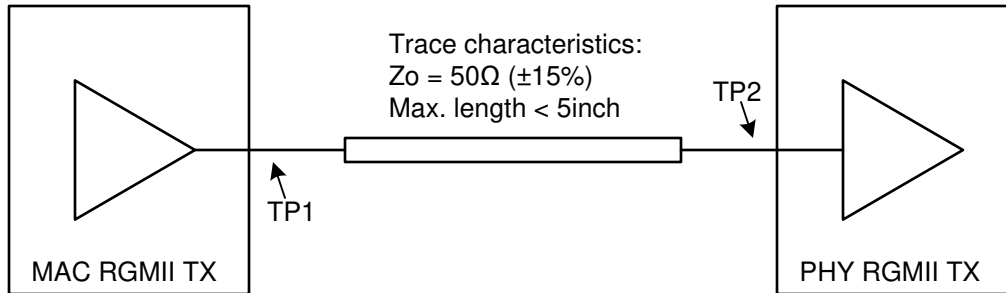

Figure 8-14. RGMII TX Requirements
- Figure 8-14 shows a RGMII interface requirements for TX* signals. MAC RGMII driver output impedance should be 50Ohm+/-20%.
- Skew for all RGMII TX signals at TP2, in Figure 8-14, should be $\leq \pm 500\text{ps}$.
- Signal Integrity at TP1 and TP2, in Figure 8-14, should be verified with IBIS model simulation and ensured conformance to following requirements: